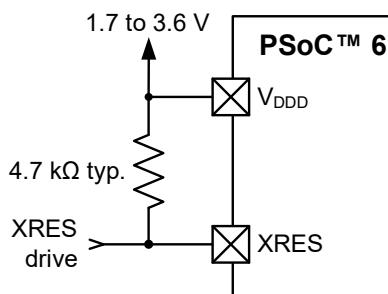

Figure 6 **XRES connection diagram**
- External reset dedicated pin (XRES) to reset the device using an external source. The XRES pin is active low. It can be connected either to a pull-up resistor to V_{DDD} , or to an active drive circuit, as Figure 6 shows. If a pull-up resistor is used, select its value to minimize current draw when the pin is pulled low; 4.7 kΩ to 100 kΩ is typical.